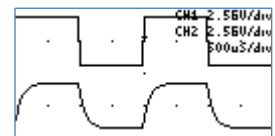

Figure 60: RC Measurements
- 5) The display should look similar to figure 60.